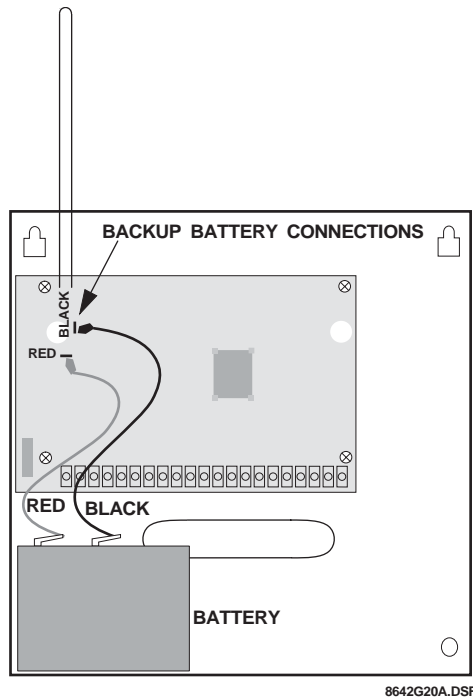

Figure 22. Connecting the Backup Battery
1. Connect the red and black battery leads (included with panel) to the lugs located in the upper-left area of the panel circuit board (see Figure 22).